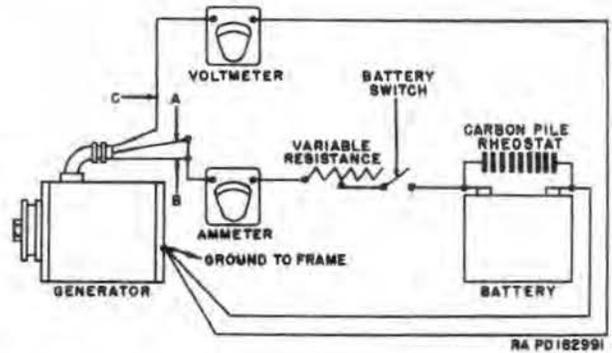

FIGURE 6. GENERATOR OUTPUT TEST WIRING DIAGRAM.
- (2) Connect 1,000 ampere range of ammeter into circuit, close battery switch and note ammeter reading. Open switch and connect ammeter to lower range as explained in subparagraph b above.
- (3) To measure field coil current close the battery switch and adjust variable resistor until voltage is the value specified (24 volts). The field current must be between the limits specified (24 volts and 0.85 to 0.89 amps). If the current is not within these limits faulty field windings or connections are indicated. Repair connections or repair or replace the housing and winding assembly.
d. Generator Output (fig. 6). Measure generator output as described in paragraph 39b.